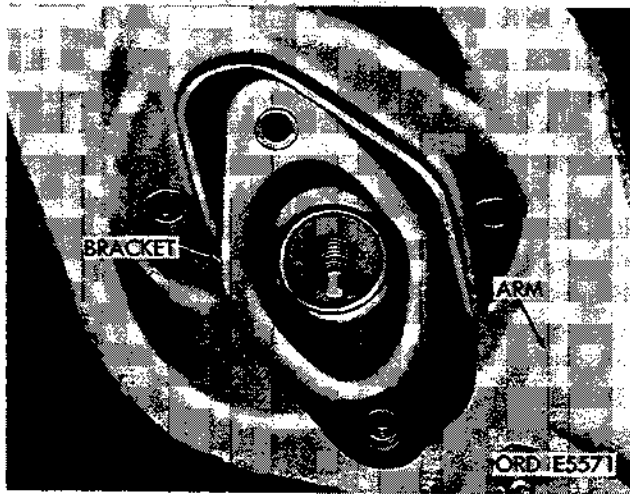

Figure 2-329. Rotate mounting bracket.
- (3) Turn mounting bracket 1/4 turn to remove from inside of suspension arm (fig. 2-329).